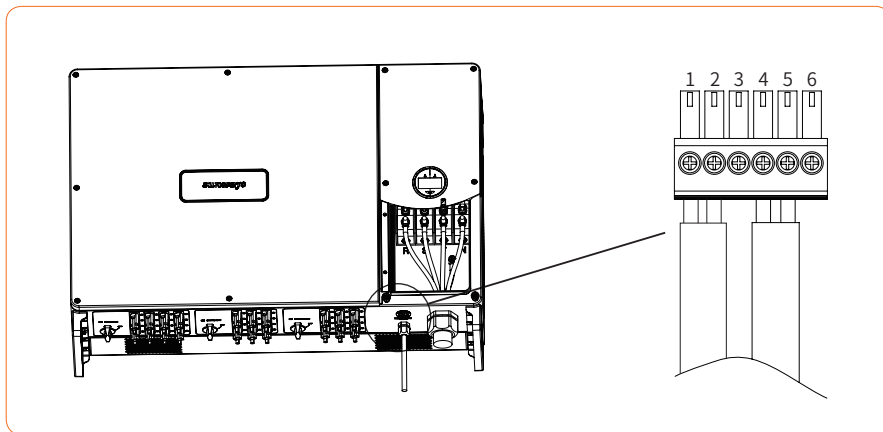

Figure 4-25
- ① Remove the right roof cover of the inverter with a cross screwdriver.
- ② Put the cables which you need through the cable gland, as shown in Figure 4-25: